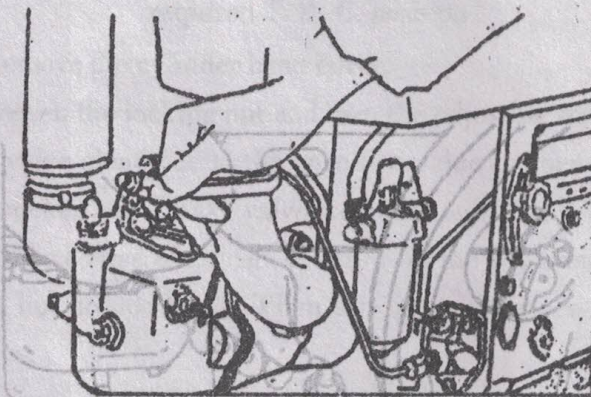

Fig.10 One method of emergency stop—blocking the engine intake pipe
2. Under special conditions where emergency stop is necessary, it is advisable to take off the air filter and block the engine intake pipe with hand (Fig. 10), or loosen any of the connections of the high pressure fuel pipe, the engine will then immediately stop. The engine can also be stopped by putting the decompression device into action.